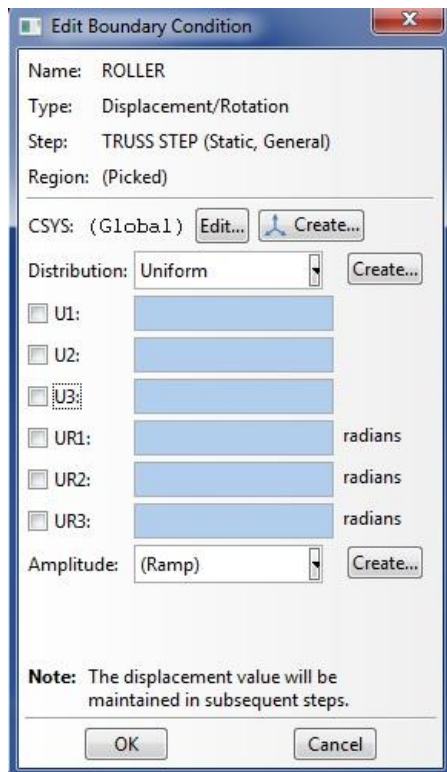

Figure 28a. Edit Boundary Condition
- The **Edit Boundary Condition** dialog box will immediately appear (Figure 28a). Check the boxes next to the **U2** and the **U3** options. This will constrain the structure in the Y and Z directions but allow movement in the X direction. Note that the default value for the respective displacements is zero. A nonzero displacement BC can be defined if needed.